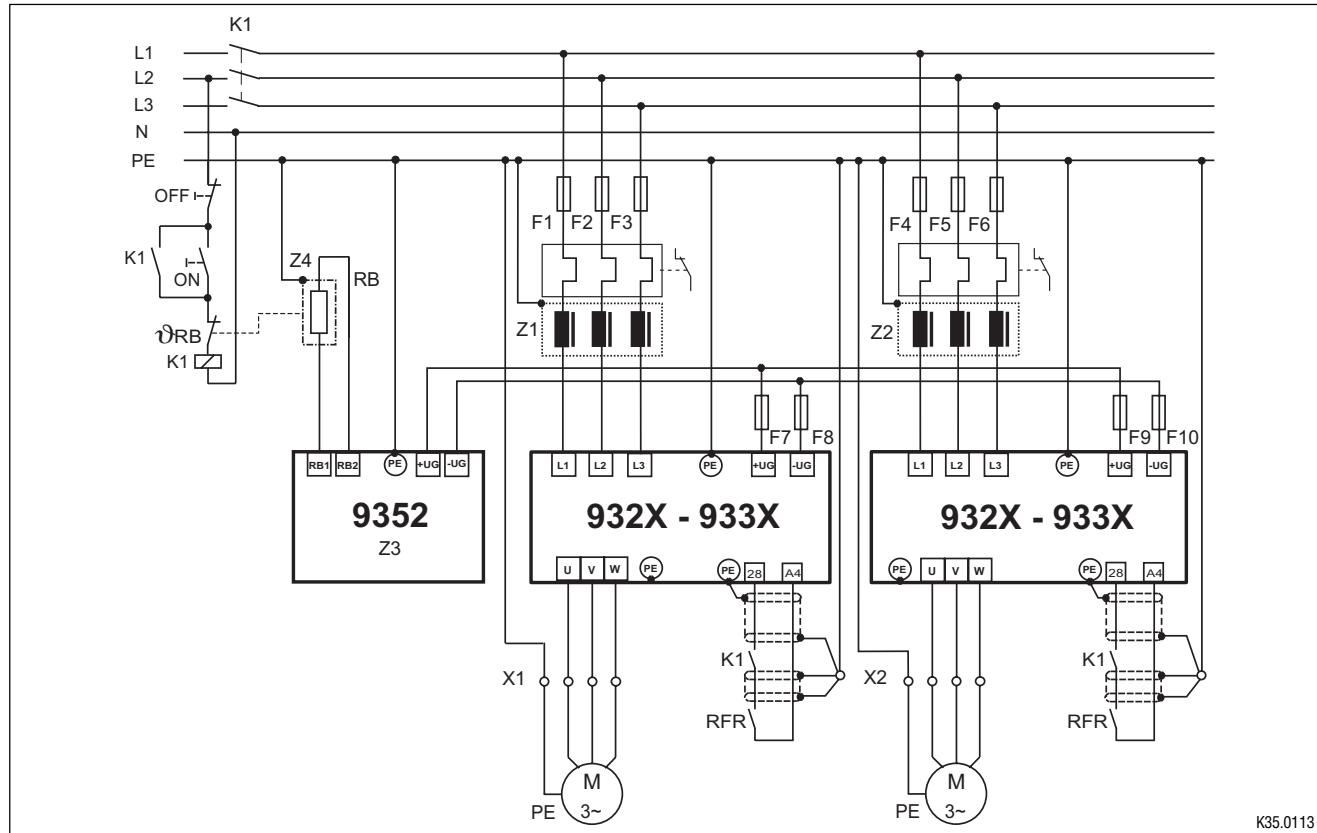

Fig. 4-9 Decentralized supply for DC-bus connection of several drives`
- Fig. 4-9, “Decentralized supply for DC-bus connection of several drives”. (§ 4-18)